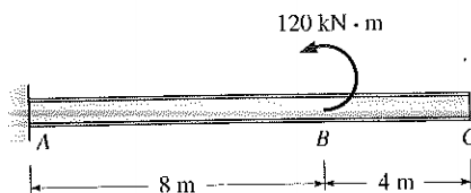

Figure 1
- 3 Draw shear force and bending moment diagrams for the given beam (Figure 1) [14M]